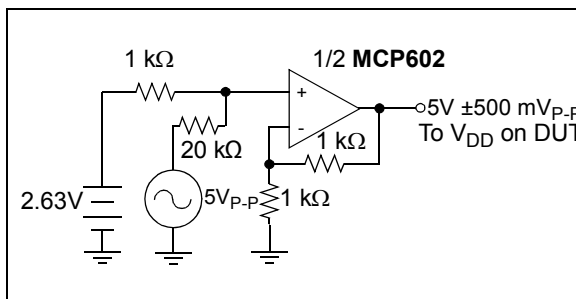

FIGURE 1-4: Power Supply Sensitivity Test Circuit (PSRR).
Note 4: $V_{DD} = 5V$ DC ± 500 mV_{P-P} @ 1 kHz, see test circuit Figure 1-4.
4: $V_{DD} = 5V$ DC $\pm 500 \text{ mV}_{P-P}$ @ 1 kHz, see test circuit Figure 1-4.
- 4: $V_{DD} = 5V$ DC ± 500 mV_{P-P} @ 1 kHz, see test circuit Figure 1-4.